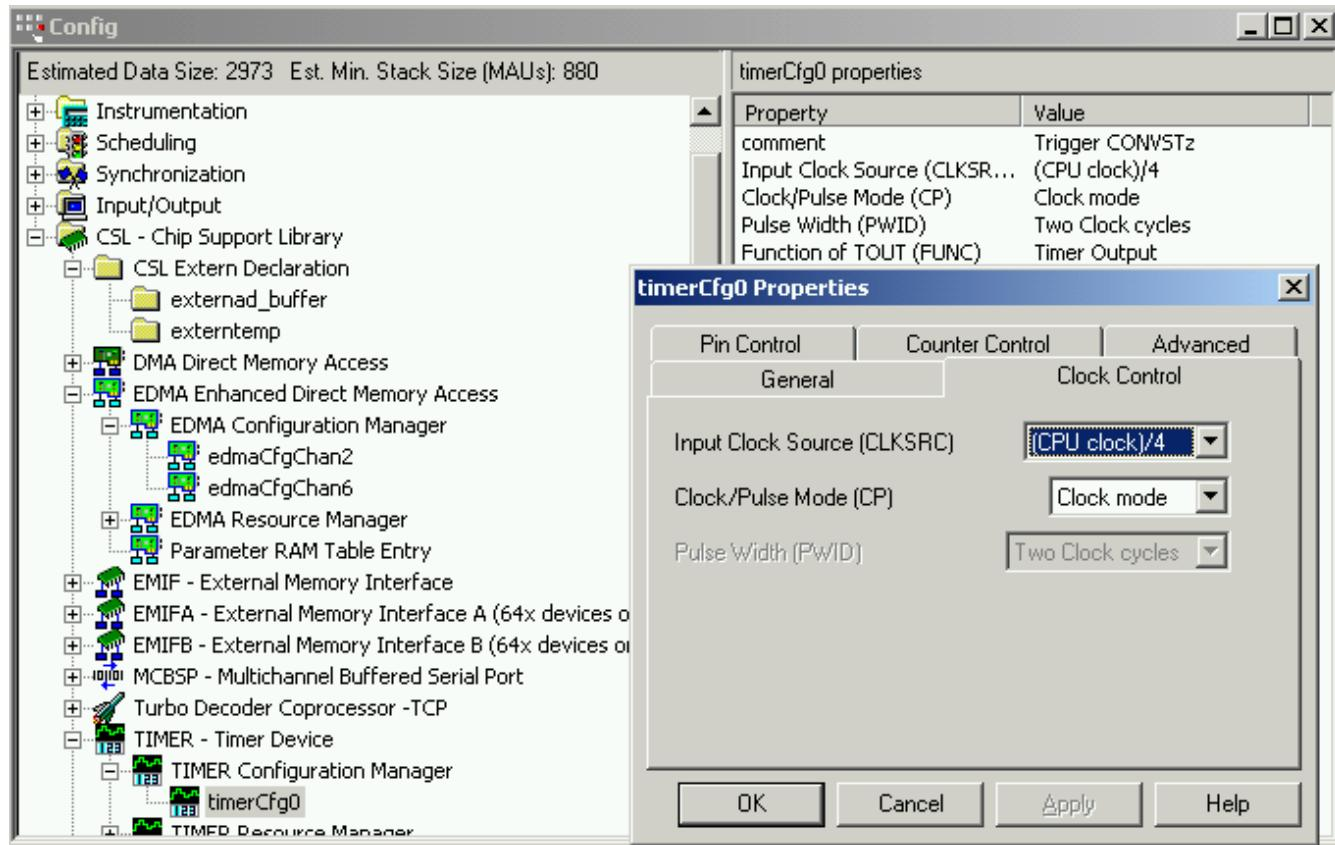

Figure 22. Timer0 Cfg. Clock Control Tab Options
1. Right click on timerCfg0 and go to the Clock Control tab. Select options shown in Figure 22. Input Clock source is CPU clock divided by 4. Select Clock mode.